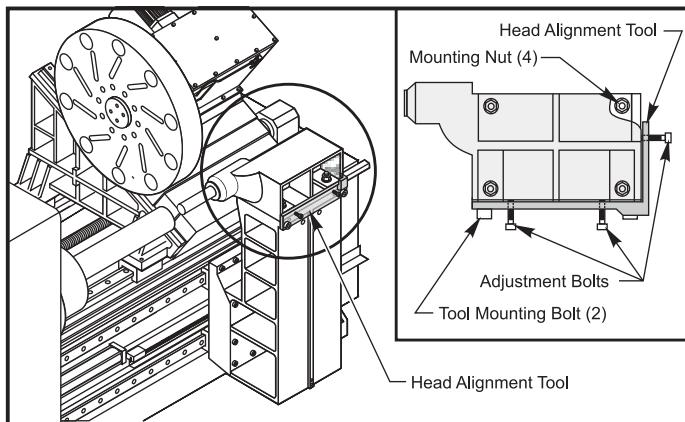

Figure 3.4-3
7. Measure flatness from base to end of tailstock. Add or remove shims if necessary using the tailstock head alignment tool. To adjust the number of shims, bolt on alignment tool, snug alignment bolts against the tailstock head, then remove the tool (Figure 3.4-3). Loosen either the front or rear pair of tailstock retaining nuts and add or remove shims as necessary. This will keep parallelism. Re-tighten the nuts. If necessary loosen the other end to add or remove shims as well. To re-align, install the alignment tool and position the tailstock against the adjustment bolts of the alignment tool. Snug the tailstock nuts and remove the tool.